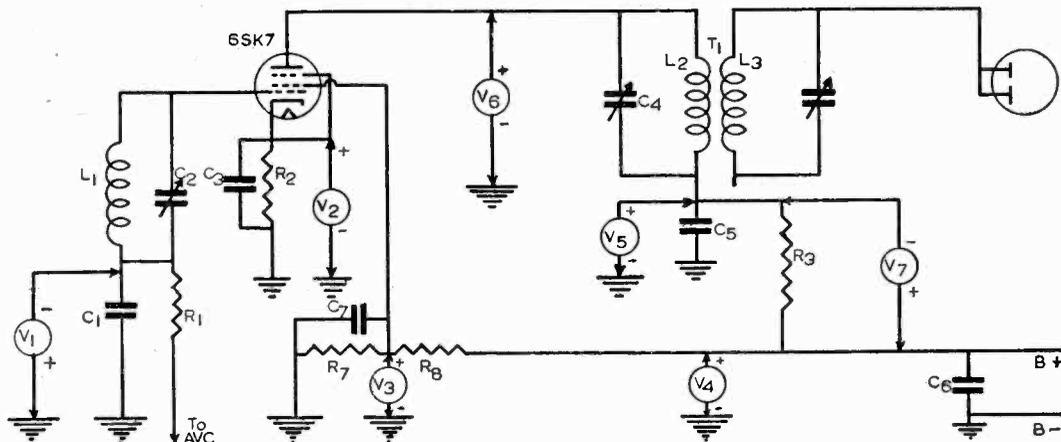
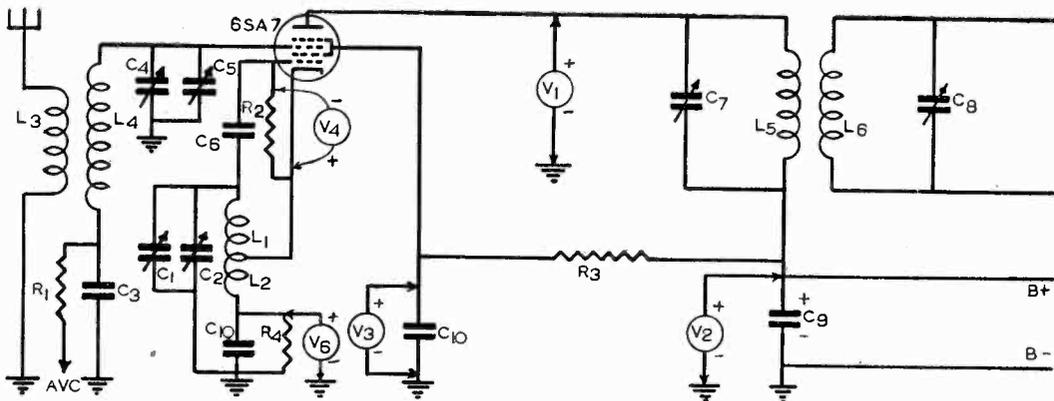

Fig. 10
Fig. 11
i.f. amplifier stage, using a 6SK7 tube, is shown in Fig. 10.
If the B supply voltage across C_8 (output filter condenser) shown by V_4 , is normal but we find that no voltage is indicated at V_5 , R_2 probably is "open." When replacing R_2 , if it is badly charred, check C_6 . It may be shorted or leaky. If there is a decrease in the B supply output voltage and R_3 is overheated, while V_5 is much lower than normal in value, it is likely C_6 is defective and has low leakage resistance. If this occurs, the full B supply voltage is applied directly through the low leakage resistance of C_6 across R_2 , causing an increase in the current flowing through R_2 . This will be indicated by a larger than normal reading for V_7 in Fig. 10.
The signal supplied to the 6SK7 i.f. amplifier stage, in Fig. 10, in a typical set, will be furnished by a mixer stage, using a 6SA7 tube, for example. A stage of this kind is shown in Fig. 11.
An appreciable negative voltage (from -5 or -10 volts to as high as -20 volts), across R_2 , should be measured with a high resistance voltmeter, with the polarity indicated for V_4 in Fig. 11, when the oscillator is oscillating. If you fail to measure this voltage, look for an open in the oscillator coil, L_1 - L_2 . The L_2 section frequently is found "open" in servicing and may be checked for continuity with an ohmmeter. An open in L_2 will result in zero voltage across R_4 .